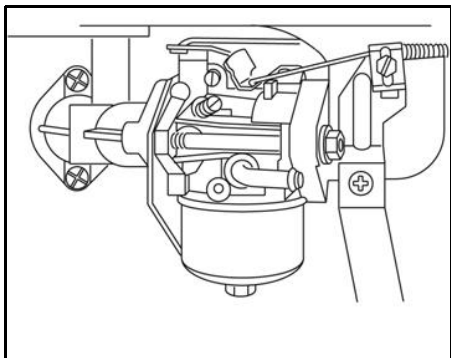

Figure 8
- Figure 8 - Models 280000, 310000, 330000 (Manual Choke).